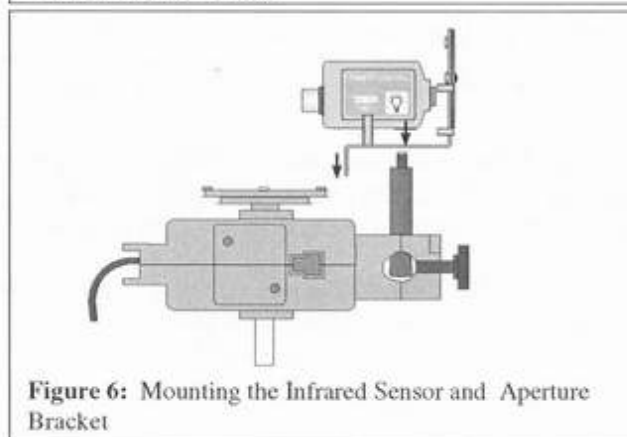

Figure 6: Mounting the Infrared Sensor and Aperture Bracket
3. Use the threaded post to secure the Infrared Sensor to the bottom support on the bracket. (see Figure 6) Insert the threaded post into the hole on the underside of the sensor and rotate the post to tighten. Slide the post into the clamp of the RMS and adjust the thumbscrew to anchor the post in the clamp.